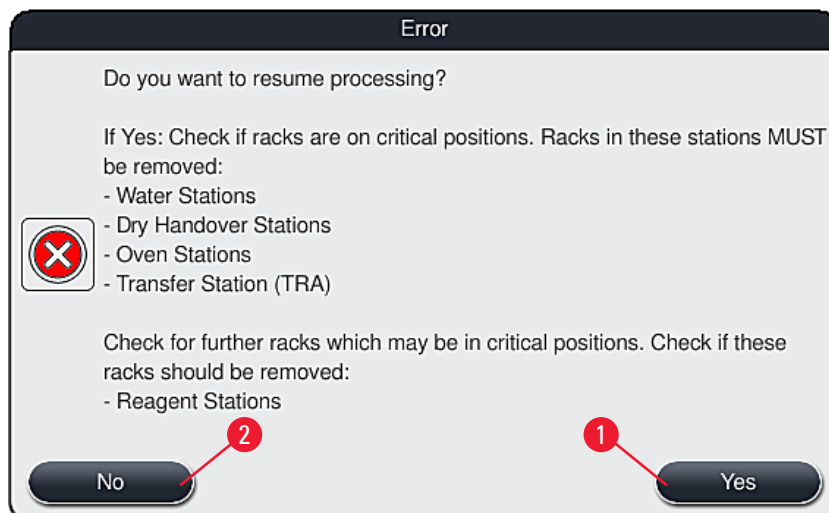

Fig. 109
4. Subsequently, the user has the option of selecting whether or not the staining process is to be resumed (→ p. 127 – 8.2.2 Resuming the staining process after a power failure) or canceled (→ p. 129 – 8.2.3 Canceling all staining processes after a power failure) (→ "Fig. 109").
- (→ "Fig. 109") Remove the critical racks from the instrument in accordance with the previous message and confirm the removal by pressing the corresponding station (→ "Fig. 110-1") on the screen.
The cancellation of the staining process and the return to the previous selection menu (→ "Fig. 109") can be undone by pressing the "Cancel" button (→ "Fig. 111-2").